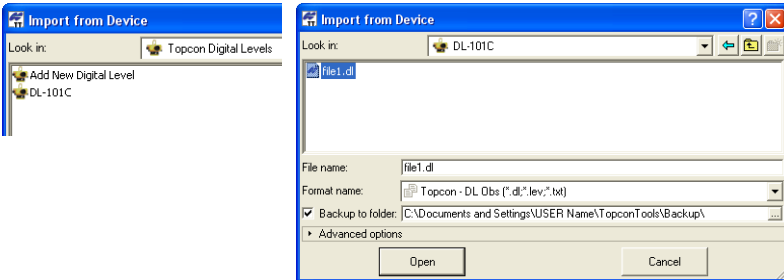

Figure 3-49. Import From Topcon Digital Level
- 6. On the *Import from Device* dialog box, select the “file1.dl” and the format type (Figure 3-49).
The new point(s) contained in the digital level’s file will display in the *Points* and *DL Obs* tabs after successful import of the file into the current Topcon Tools job. A “file.dl” file will be saved in the folder defined in the *Backup to Folder* field of the *Import From Device* (Figure 3-49).